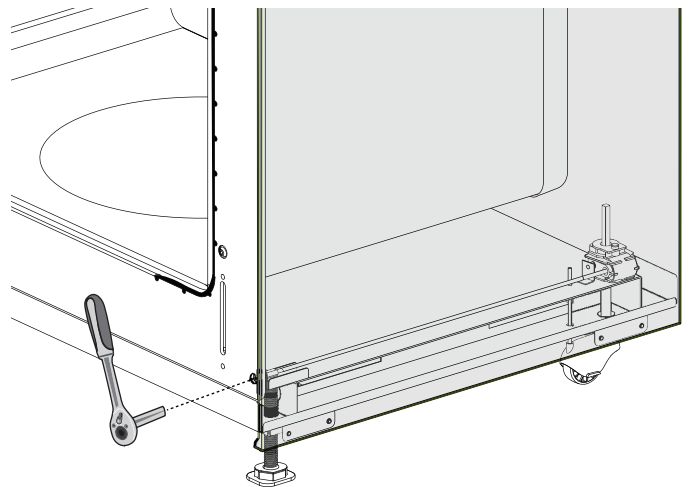

Figure 19: Adjusting the Height of the Range
5. Height adjustments of the two rear castor legs are made by turning the 5/16" socket located behind the front frame as indicated in *Figure 19*.